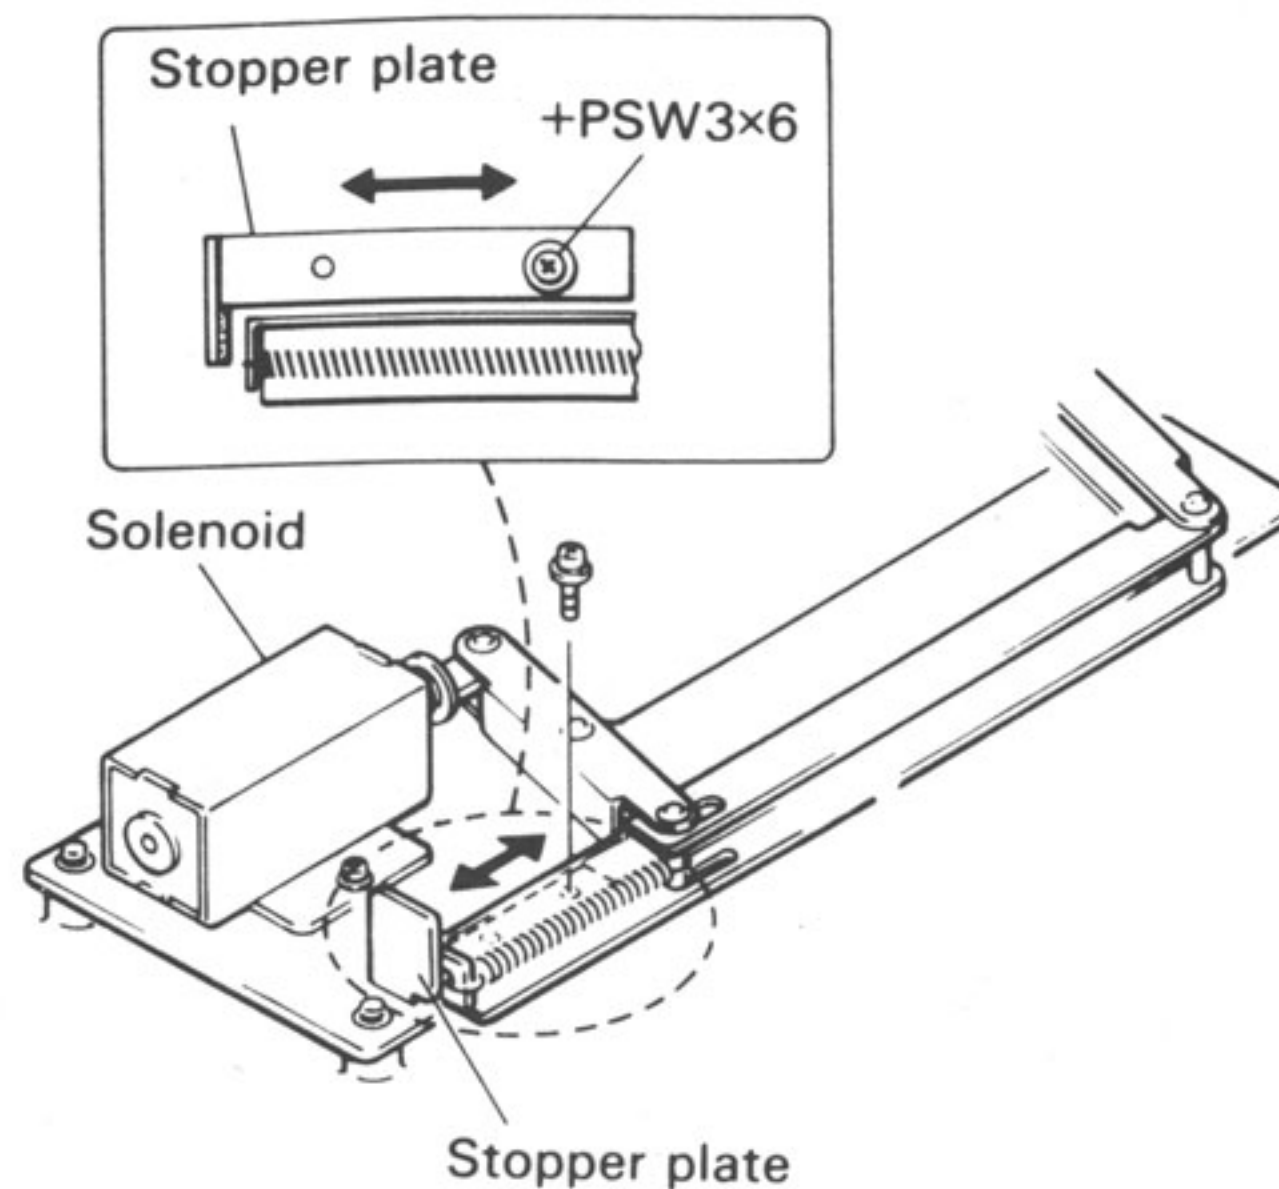

Figure 6-11. Lifters In Position Adjustment
STEP 2. Loosen the 3x6 screw on the stopper plate as shown in Figure 6-11.